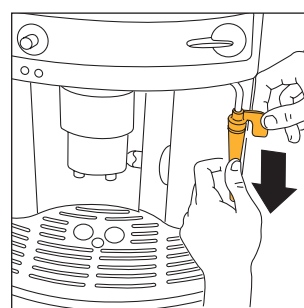

Fig. 26
- Remove the steam nozzle from the delivery spout by pulling it downwards (Fig. 26).